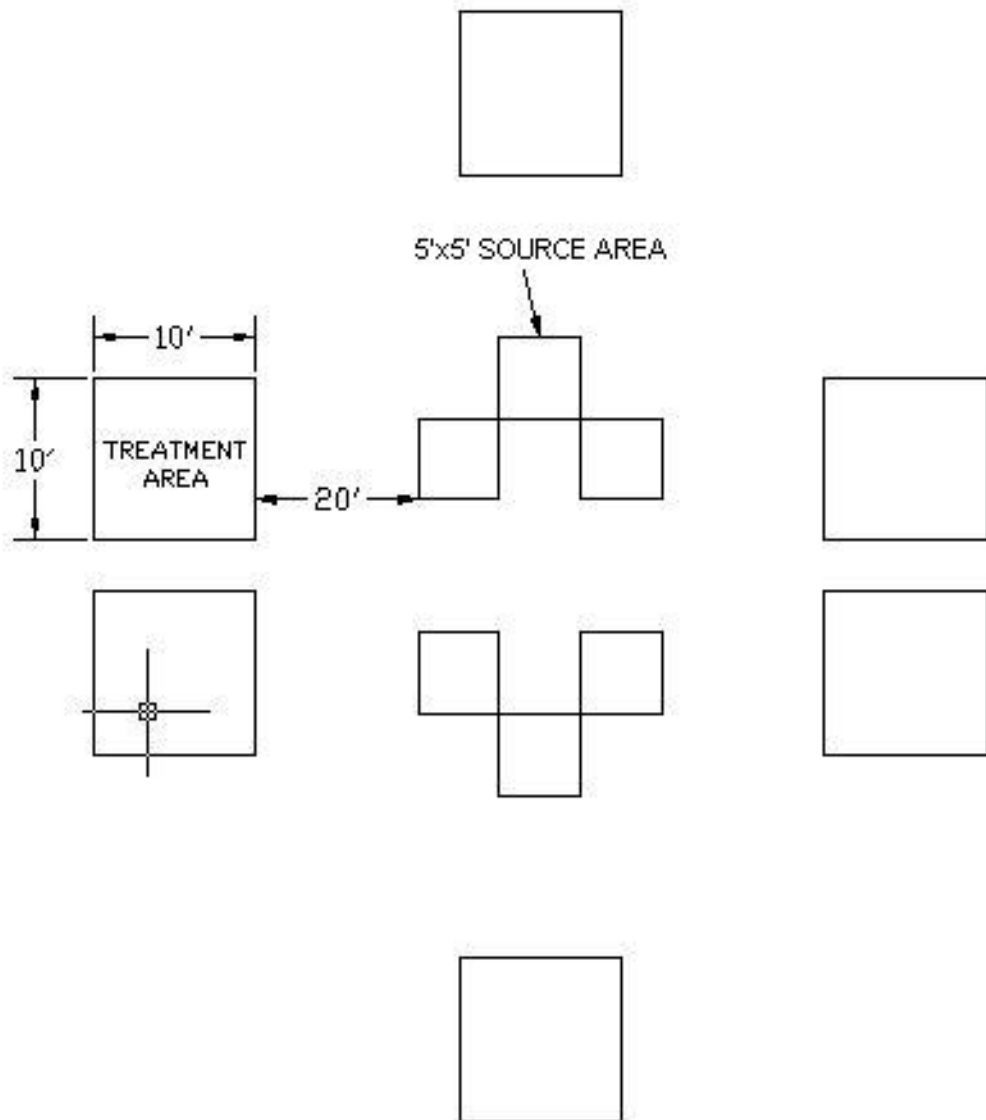

Figure 1: Site Plan
2. Each team will have a 10’x10’ treatment area in which to set up their system. The source area from which the water will be conveyed will measure 5’x5’, as shown in **Figure 1**.
5. Teams may physically move water from their collection area to their treatment area, but each trip will incur a point penalty based on calculated man hours (see **5.2 PENALTIES**). Also, each person will be allowed to carry only two (2) liters of water per trip and only one transport container may be used at any one time.